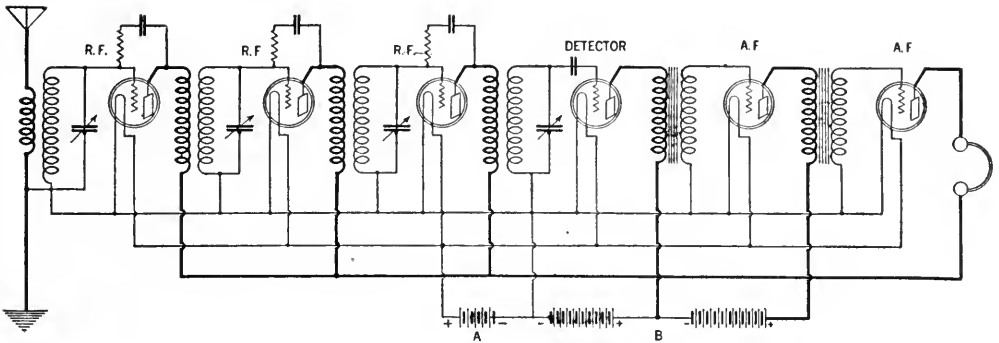

FIG. 7
**I**N ADDITION to the radio frequency amplification of each stage, it is possible to obtain a regenerative amplification which is equivalent in increased volume to the addition of two audio stages on a signal of average intensity. Fig. 7 shows the circuit of a receiver consisting of three stages of radio frequency amplification, a detector and two audio stages.